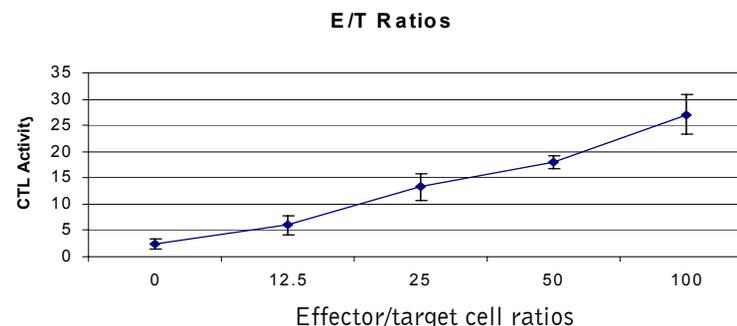

Figure 2: CTL activity increased when more effector cells were used.
- From the sample data collected, derive a FSC vs. SSC plot or FL1 (CFSE) vs. SSC to separate the target population from the effector cells (like Figure 2).